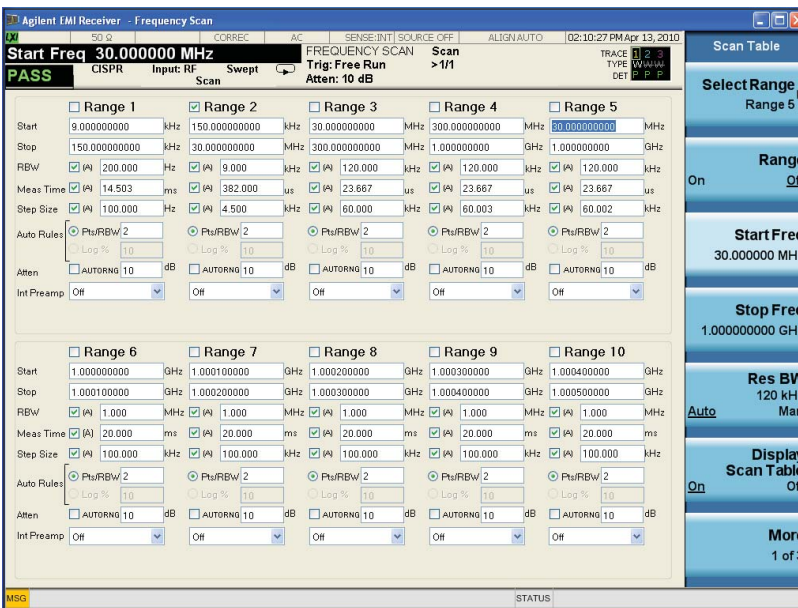

Figure 5. Scan table
2. Next, be sure you are measuring within the appropriate frequency range for conducted emissions measurements, 150 kHz to 30 MHz. Agilent's EMI measurement application uses a scan table to make it easy to select the appropriate frequency range as shown in Figure 5. Deselect any other ranges that are selected.